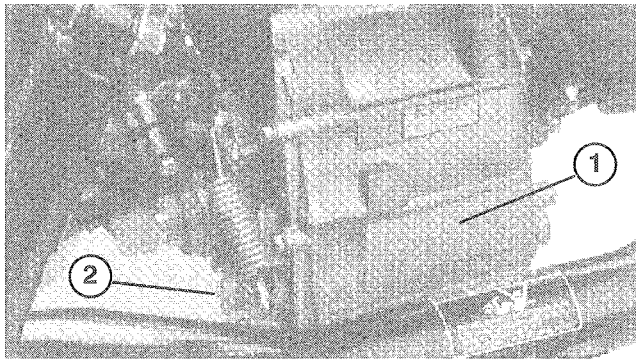

Figure 46
CHANGING TRANSAXLE / HYDRAULIC FLUID (Fig. 46)
2. Remove drain plug (Fig. 46) from side of reservoir and let hydraulic fluid flow into drain pan.